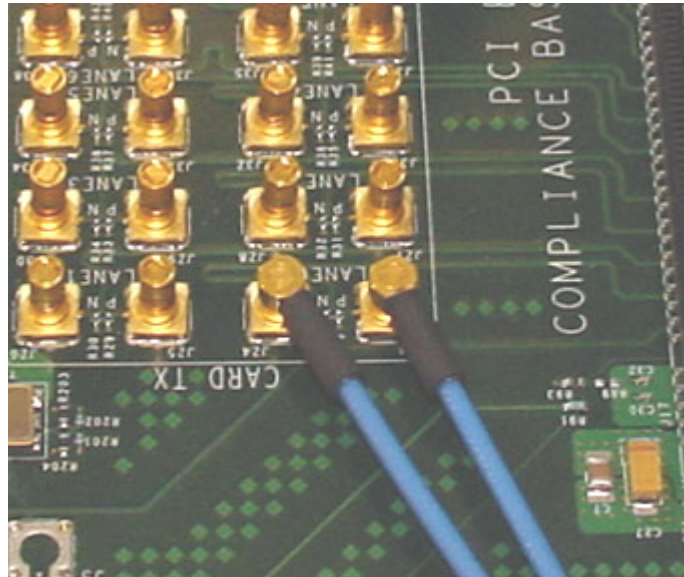

Figure 90 Compliance Base Board (CBB) 2.0 SMP Probing Option
- a Digital Storage Oscilloscope channel 1 to the D+ (where Lane 1 is under test in this example shown in Figure 90 above).
- b Digital Storage Oscilloscope channel 3 to the D- (where Lane 1 is under test in this example shown in Figure 90 above).